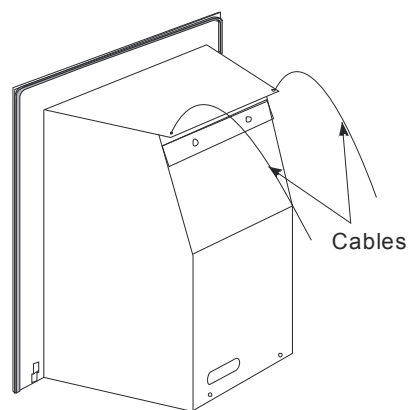

Figure 54
4. Unpack the cable fixing kit and feed the cable ends through the top holes on the sides of the flue outlet (see **Figure 54**).